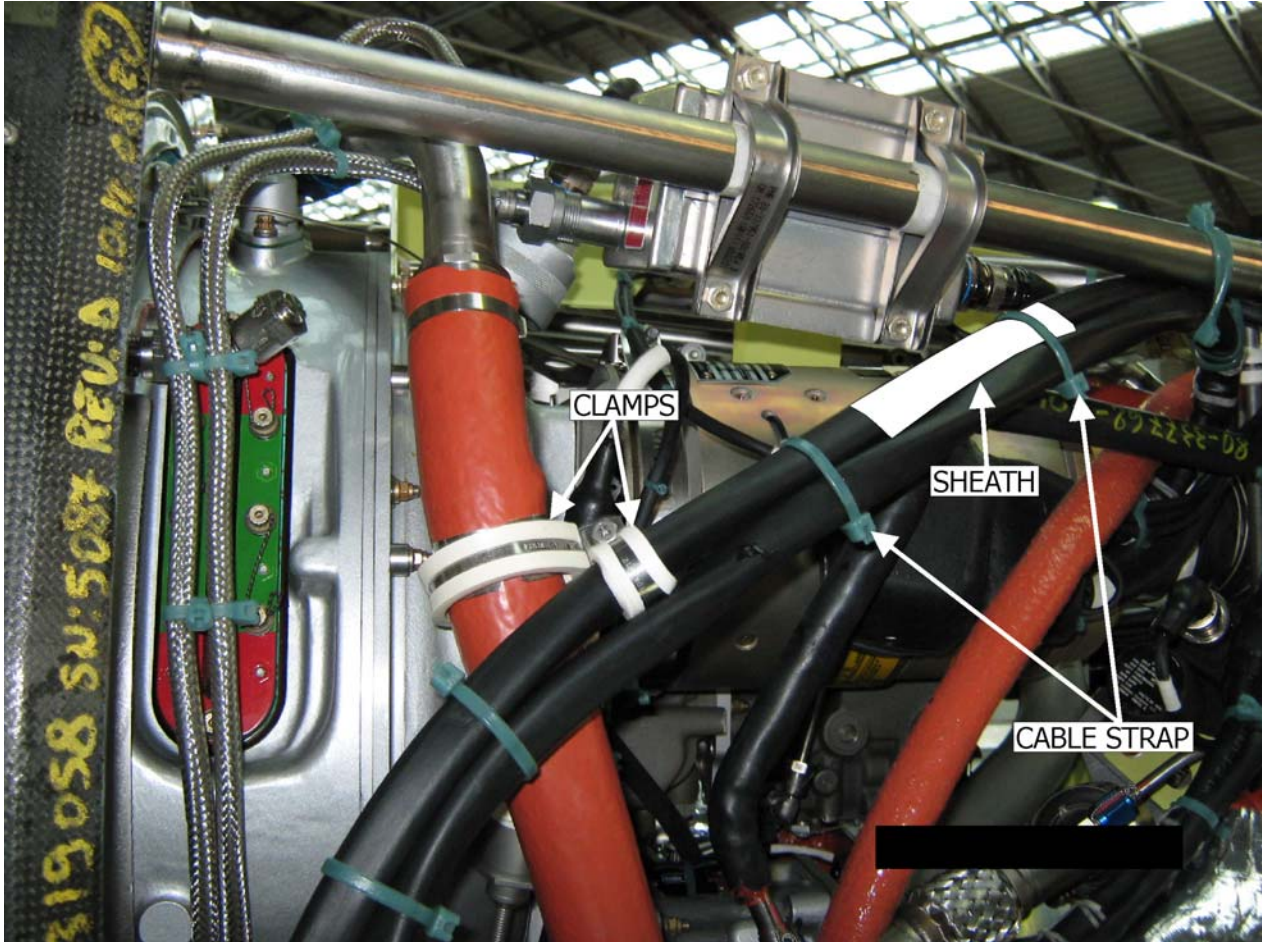

Fig. 212 - Generator Power Cables - Inspection (Airplane SN 1181 and subsequent)
- (4) If a clearance of less than 6.35 mm (1/4 of inch) is observed from a sharp edge, reroute the Power Cables to maximize the clearance and ensure that the clamping of the Power Cables is sufficient to avoid any cable movement; clamps can be added or, if already installed, can be doubled according to Wiring Manual Sect. 20-00-00, paying attention to the minimum allowed bending radius. Clamp P/N MS21919CH16 is suitable for clamping the two cable bundles together; use of high temperature plastic tie wrap (e.g. TYZ25M wrap) is allowed to double existing clamps. Refer to Fig. 212 for examples of clamps installation.
- (5) If a clearance of less than 6.35 mm (1/4 of inch) is observed from any flammable fluid carrying pipe, protect the Cable with an insulating sleeve (P/N AS1072-12SIL-FG, that shall be installed after removing the electrical Connector from the Receptacle on the Generator, Refer to 24-30-00); re-route the Power Cables to maximize the clearance and ensure that the clamping of Power Cables is sufficient to avoid any Cable movement. Clamps can be added or, if already installed, can be doubled according to Wiring manual Sect 20-20-00, paying attention to the minimum allowed bending radius. Clamp P/N MS21919CH16 is suitable for clamping the two cable bundles together; use of high temperature plastic tie wrap (e.g. TYZ25M wrap) is allowed to double existing clamps. Refer to Fig. 212 for examples of clamps installation.
- (6) Refer to 54-10-00 and reinstall the LH/RH Nacelle Upper Panel 410AT / 420AT.